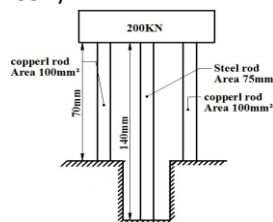

Figure 5
22. Two copper rods and one steel rod together support a load of 200KN as shown in **Figure 5**. Find the stress in the rod Take $E_s=2 \times 10^5 \text{ N/mm}^2$ and $E_c=1 \times 10^5 \text{ N/mm}^2$.